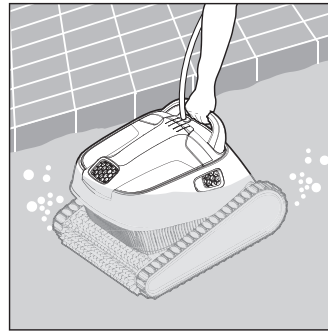

Figure 5
2. Lower the cleaner into the pool by the handle (see **Figure 5**).